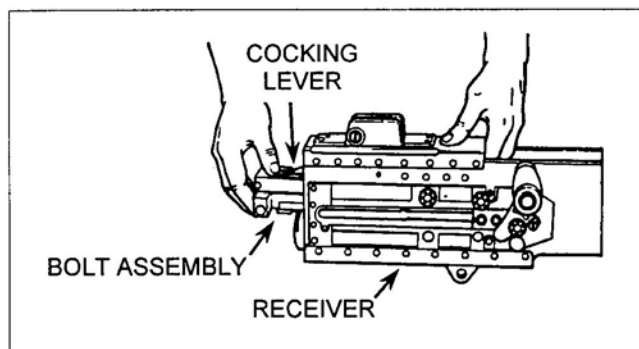

Figure 38. Installation of the bolt assembly.
- (15) Hold cartridge extractor in vertical position and insert shank end of cartridge extractor into left side of bolt. Make sure cartridge extractor fits into bolt as far as possible.
- (16) Rotate cartridge extractor downward to full horizontal position. Check that flange on bottom of cartridge extractor has engaged shoulder on bolt.
- (17) Ensure cocking lever is forward.
- (18) Push bolt assembly forward into receiver until bolt latch engages notches in top of bolt assembly (Figure 38).